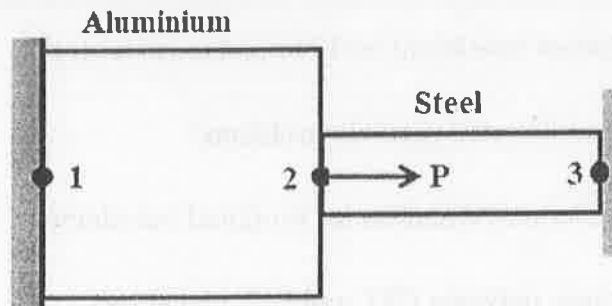

Figure. 2
12. (a) Consider a bar with fixed ends shown in Figure 2. An axial load $P=200 \times 10^3$ N is applied as shown. Using elimination method of boundary condition, determine: (i) Nodal displacements, (ii) Stress in each element, and (iii) Reaction forces. Take $A_1 = 2000 \text{ mm}^2$, $E_1 = 70 \text{ GPa}$, $L_1 = 500 \text{ mm}$, $A_2 = 500 \text{ mm}^2$, $E_2 = 200 \text{ GPa}$ and $L_2 = 400 \text{ mm}$.